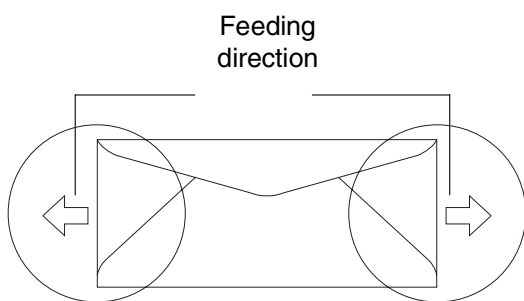

Figure 1
- Envelopes should consist of two layers of paper in the area circled in Figure 1.